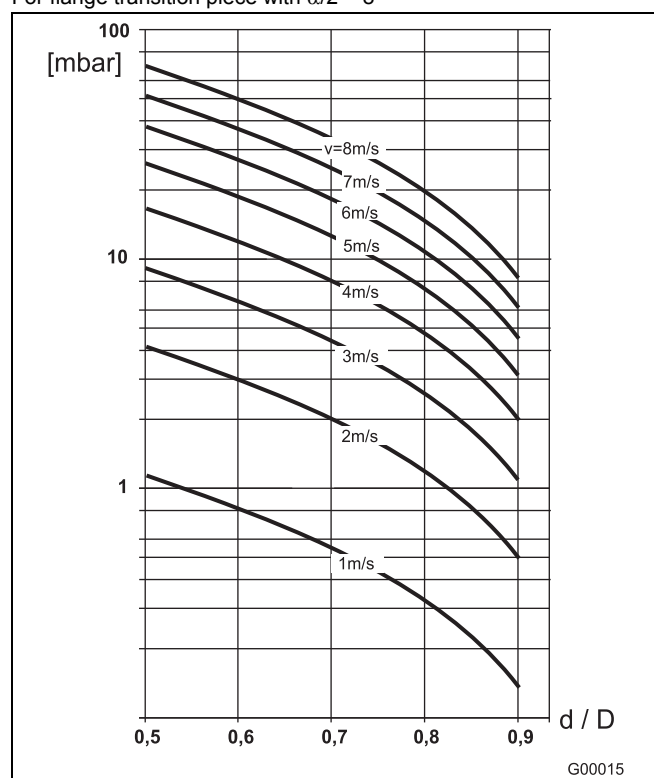

Fig. 19
2. Determine the flow velocity based on the flow range nomograph (Fig. 19).
3. Read the pressure drop on the Y-axis in Fig. 19.